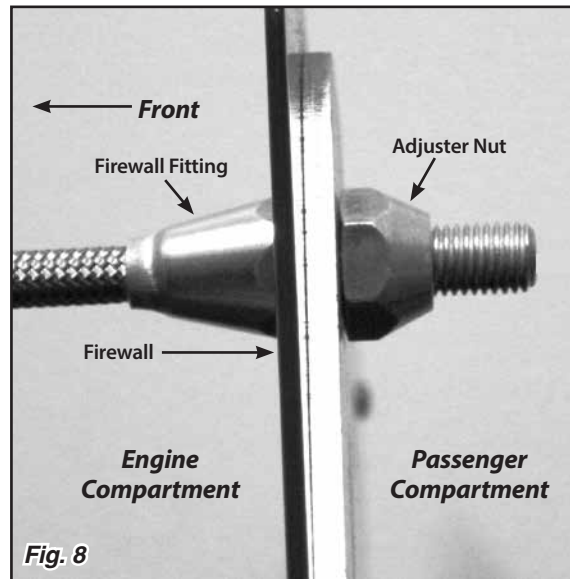

Fig. 8
- Step 15:** On the pedal end of the cable housing, remove the adjuster nut from the firewall fitting. Insert the firewall fitting through the firewall from the engine side, and reinstall the adjuster nut. **Fig. 8**